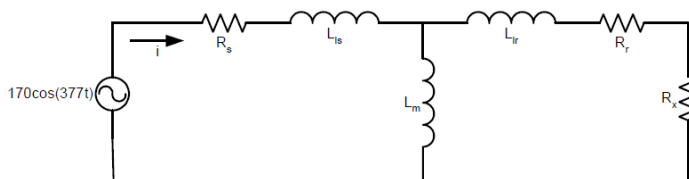

Figure 4.1 A Circuit model for one phase of an induction motor being driven by the utility
7. Figure 4.1 shows a circuit model for the utility supplying one phase of an ac induction motor. The motor system parameters are $R_s = 0.08 \Omega$, $L_{ls} = 1 \text{ mH}$, $L_m = 40 \text{ mH}$, $L_{lr} = 1 \text{ mH}$, $R_r = 0.1 \Omega$, and $R_x = 33 \Omega$. If the utility voltage is $170 \cos(377t)$, i) what is the current into the motor? and ii) At what power factor is the motor operating?